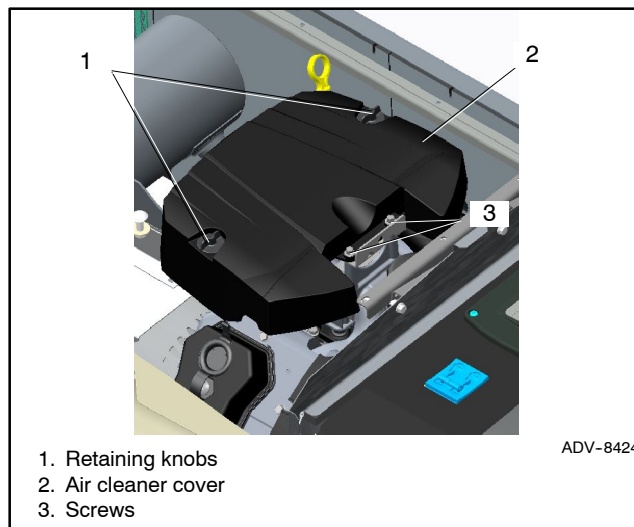

Figure 8 Air Cleaner Cover (20RESA shown)
6. Loosen the air cleaner cover retaining knob(s) and remove the air cleaner cover. See Figure 8.